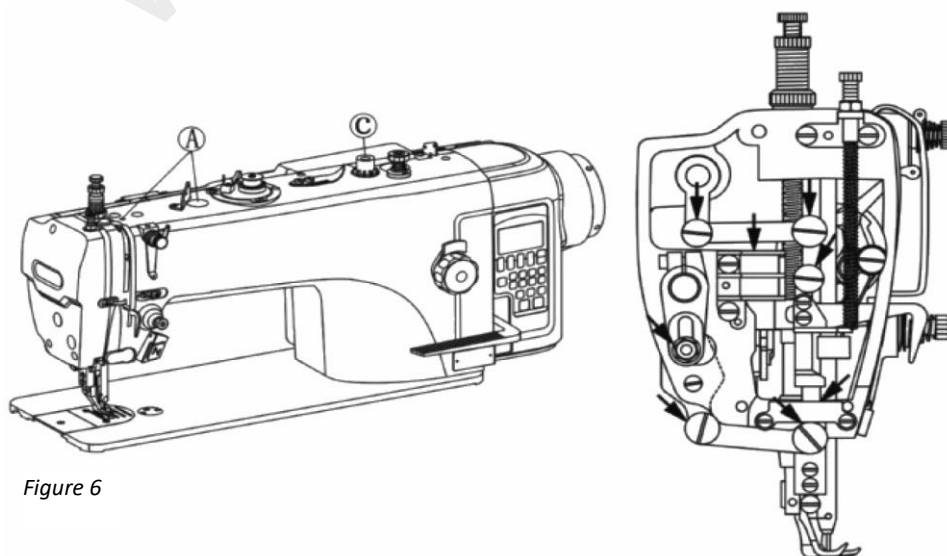

Figure 6
At the beginning of using the new machine or shelved for a long time, first to un load the upper rubber plug (A) and panel. According to the position of the graphic refueling fully, and then put panel, lift the presser foot and run the machine with for low speed (1000-1500/min) and watch the injection situation of oil window (C). See Fig. 6.